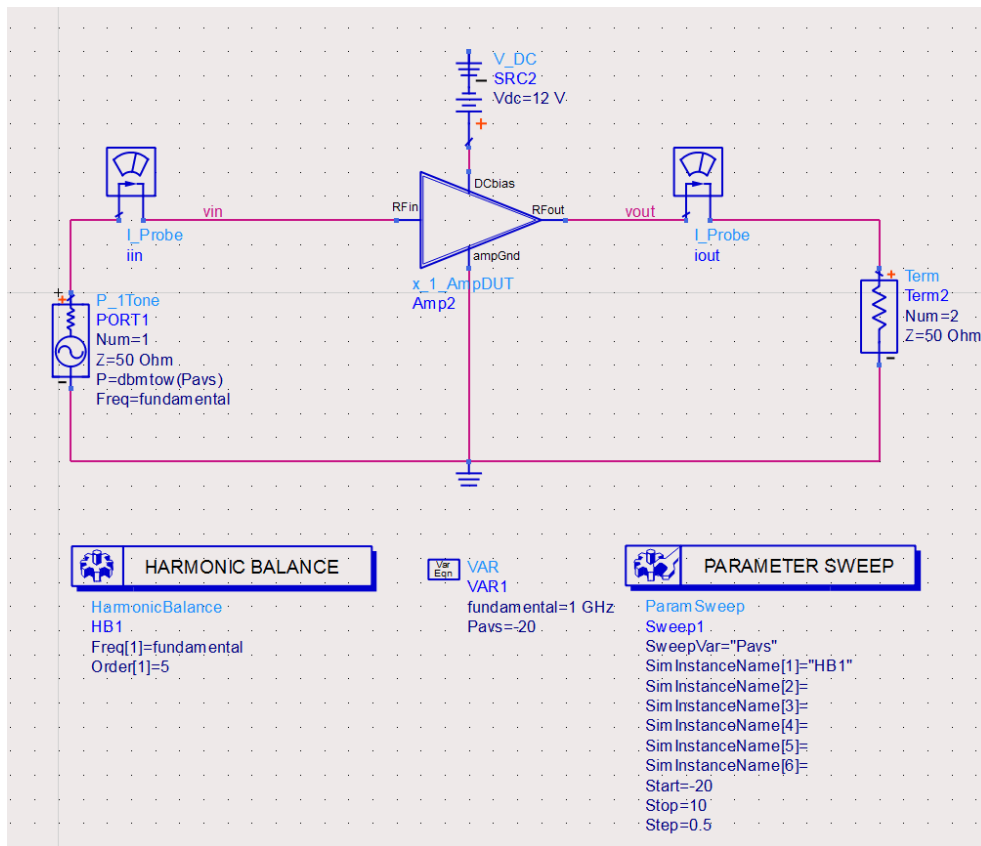

Figure 9: Harmonic Balance Simulation Schematic with Circuit Model
1. Re-open your S-parameters simulation schematic and change the S2P component to the circuit symbol (with a 12 V dc source) provided on the website as shown in Figure 9.